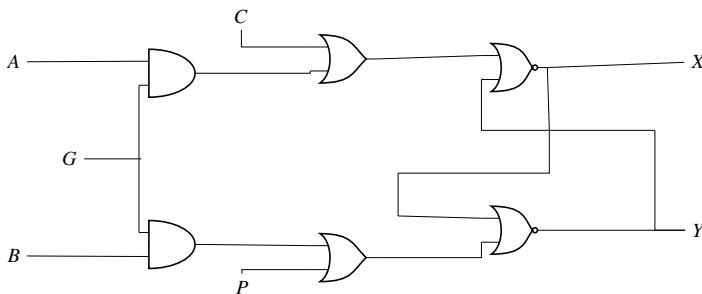

Fig. 3.40
58. For the following circuit Fig. 3.40, the correct logic values for the entries X_2 and Y_2 in the truth table in Table 3.9 are (PH2019,36)